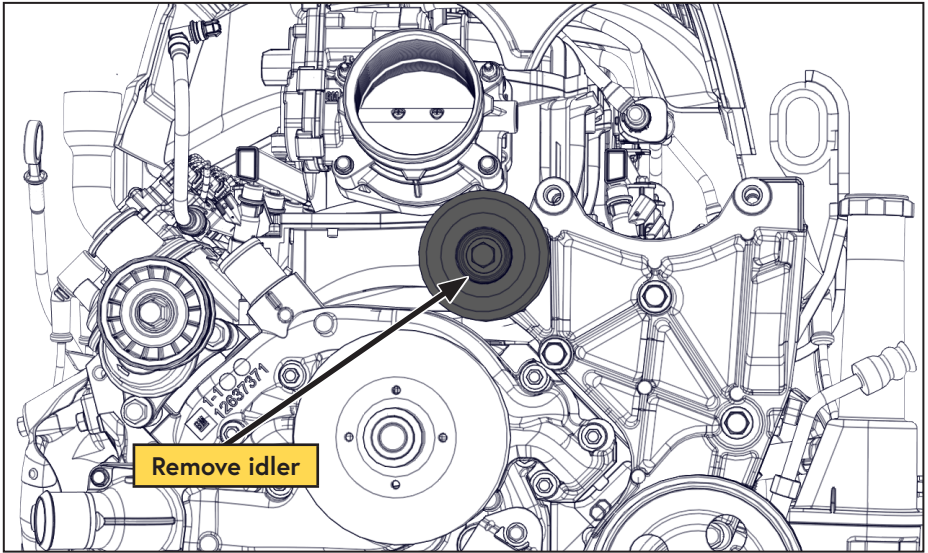

Figure 9 — Remove idler
- Remove the OEM idler from the top of the bracket and set it aside for reinstallation later (Figure 9).